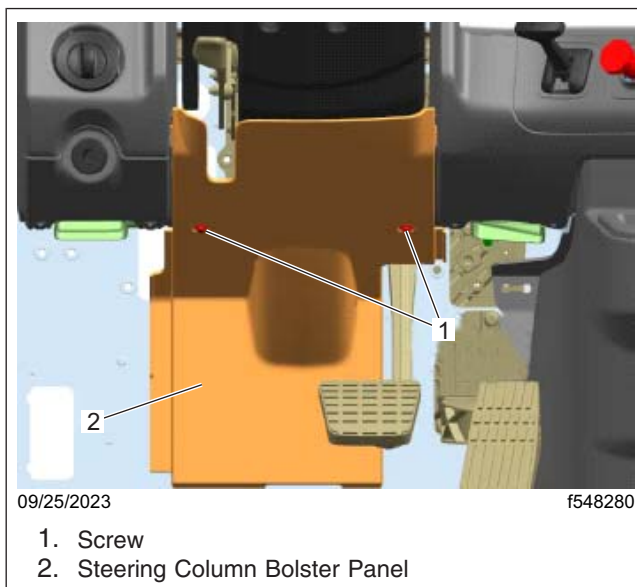

Fig. 8, Steering Column Bolster Panel
- 4.3 Remove the two screws from the steering column bolster panel, then remove the panel. See Fig. 8.